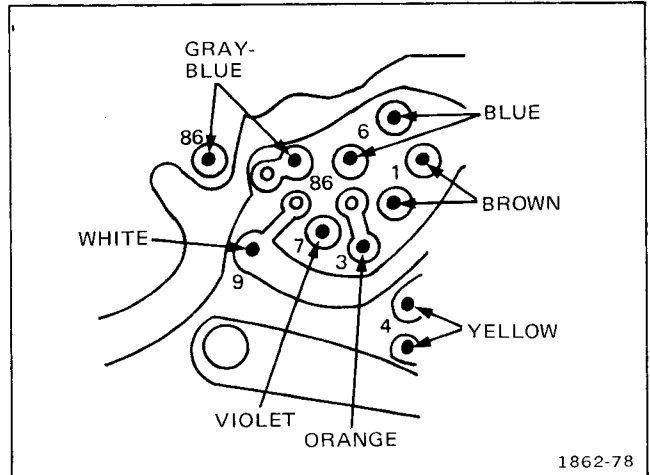

Fig. 4-6. Locations of power transformer secondary wires.
20. Unsolder the power-transformer wires from the Main Interface board and confirm each wire color with its location in Fig. 4-6. Record any exceptions to this procedure to facilitate reassembly.